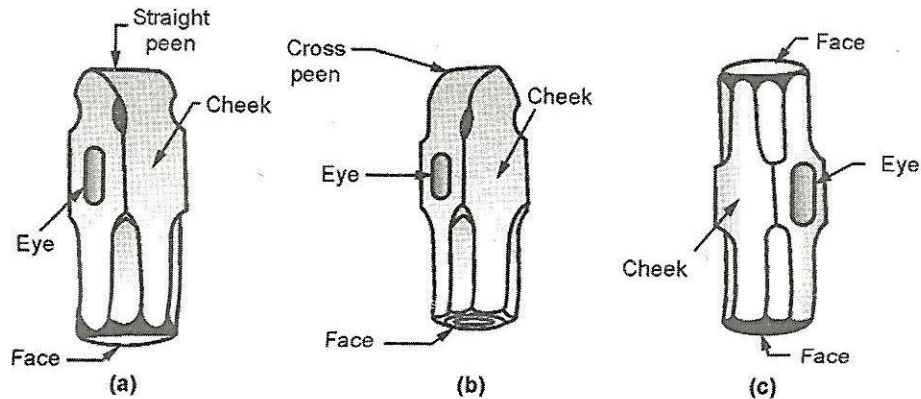

Fig. 3.14 : Sledge hammers
- The construction of straight peen and cross peen hammers is similar as discussed in hand hammers. Refer figure 3.14 (a) and (b).
- If the hammer has no peen formation and instead carries flat faces at both ends, then it is called as double ended or double faced hammer. Refer figure 3.14 (c).